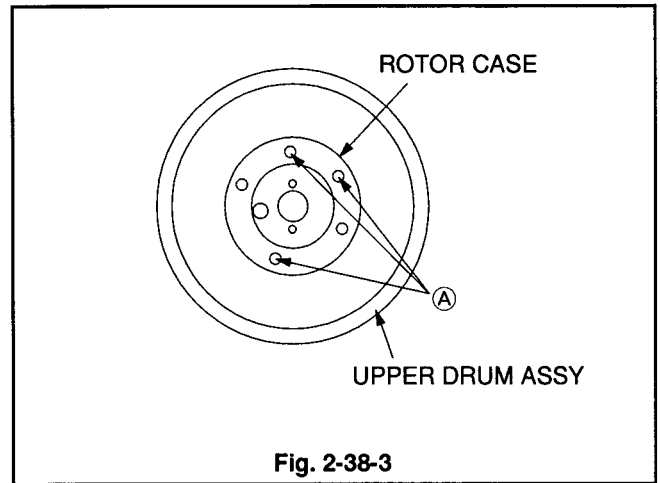

Fig. 2-38-3
- 5 Install the ROTOR CASE shown in Fig. 2-38-1 so that the reference holes (A) match each other at three points between the ROTOR CASE shown in Fig. 2-38-3 and the UPPER DRUM ASSY.